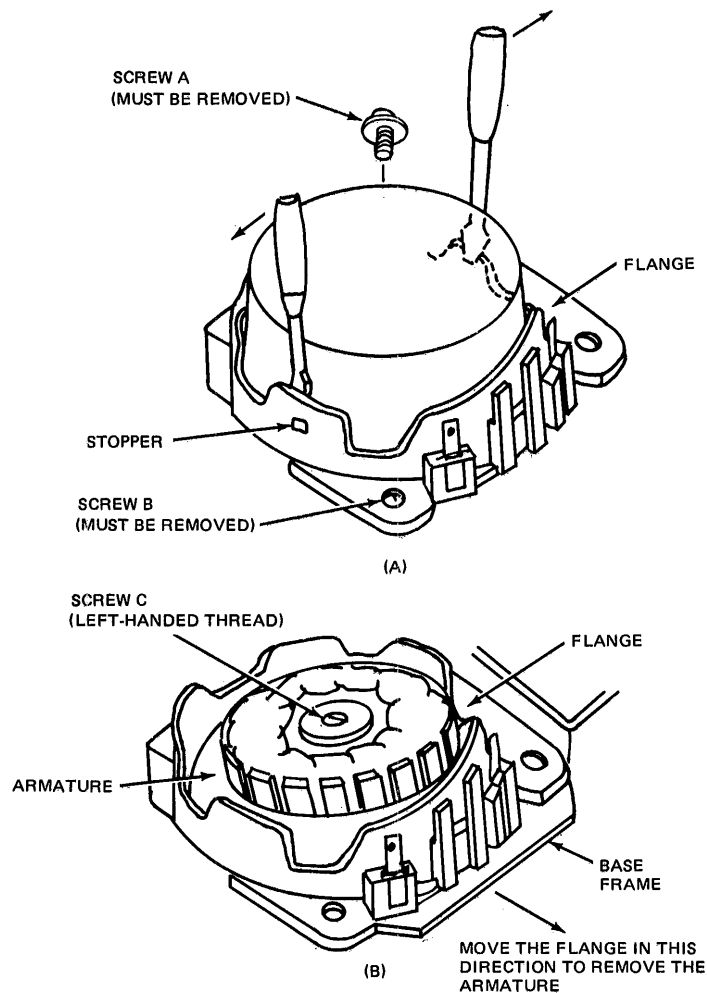

Figure 4-14 Removing the Armature
- b. Insert two nonmagnetic screwdrivers between the magnet cap and the motor flange as shown in Figure 4-14.
- d. If the carbon brushes are installed, remove the screws A and B (see Figure 4-14) that hold the motor flange, loosen screw C, and move the flange toward the front of the disk drive to take pressure off of the carbon brushes.